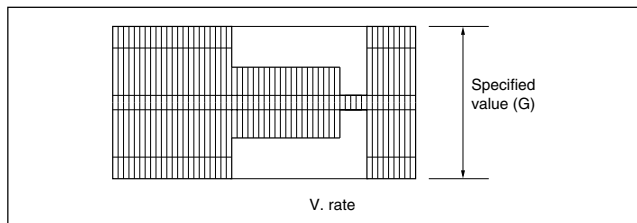

Fig. 3-3-4b REC color (colour) level
- Apply the external trigger signal to D.FF (E) to observe the PB color (colour) waveform at the measuring point (D2).
- (9) Adjust with the channel buttons (+, -) on the VCR (or on the remote controller) so that the higher level channel becomes the specified value (G) of the note "B" level as shown in Fig. 3-3-4b. (Adjust before recording, then confirm it by playing back.)
- (10) After adjustment, record the signal (A3) then playing it back again. At this time, confirm that there is no inverting phenomenon or noise appearing on the playback screen.
- (11) Release the EVR mode of the VCR by transmitting the code (F1) from the Jig RCU again. (When the EVR mode is released, the adjusted data is memorized.)
- (12) Repeat steps (3) to (11) in the mode (B2).